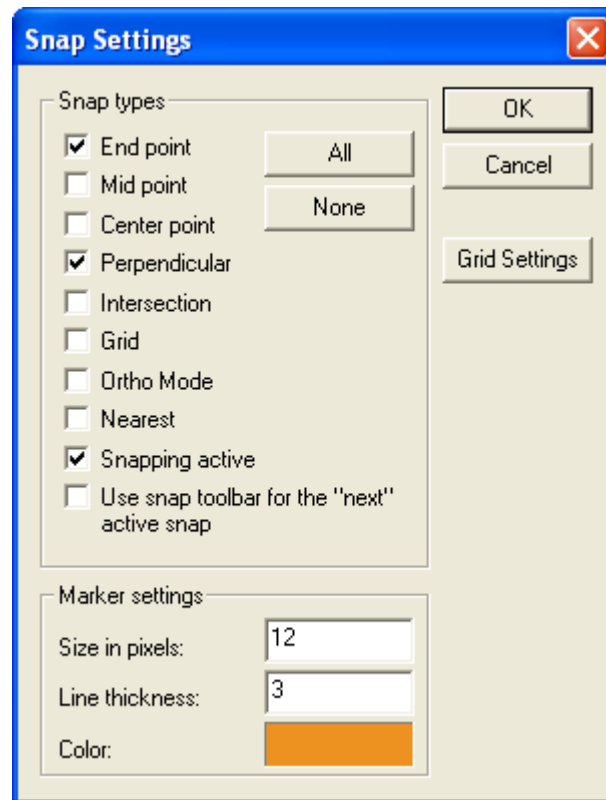

FIGURE 2.6-2 SNAP SETTINGS DIALOG BOX
**Snap Settings (Fig. 2.6-2).** This tool opens the Snap Settings dialog box, where all snapping features may be selected or deselected.